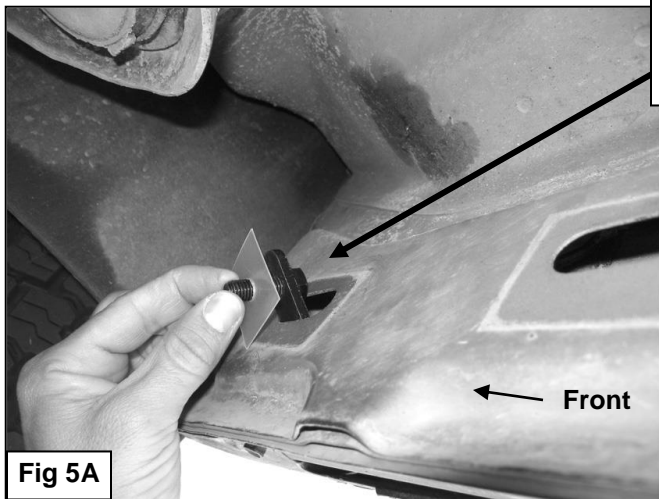

Fig 5A
5. Remove the tape covering the factory hole in the back side of the lower body panel near the Mounting Bracket, **(Figures 1 & 3)**. Thread (1) Plastic Retainer part way onto (1) 10mm x 35mm Bolt Plate, **(Figure 4)**. Insert the Bolt Plate into the factory hole on the body panel, **(Figure 5A)**. Hold the Bolt Plate in place with one hand and continue to thread the Plastic Retainer down against the sheet metal to hold the Bolt Plate in place, **(Figure 5B)**. **IMPORTANT:** The Plastic Retainer is designed to prevent the Bolt Plate from falling into the body panel and to aid in Bracket installation.